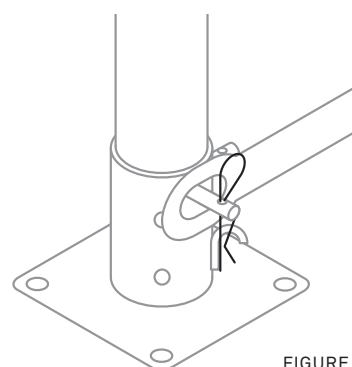

FIGURE 9
11. Slide the tubes of the base frame over the horizontal rod of the base plate. Then place the R-pin as illustrated in figure 9 to prevent the base frame from sliding off the rod.